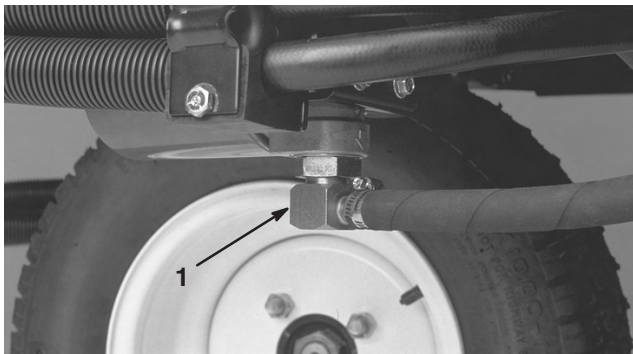
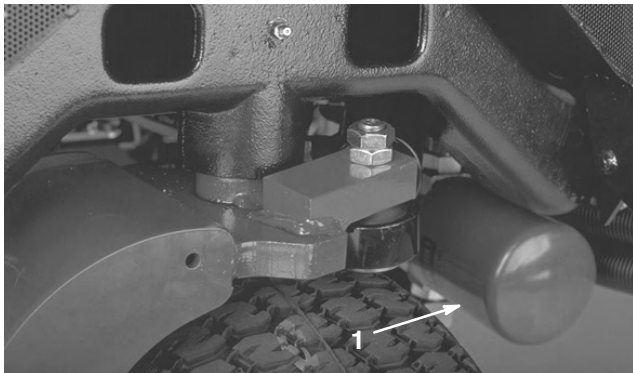

Figure 47
Figure 48
2. Disconnect the hydraulic line (Fig. 47) or remove the hydraulic filter (Fig. 48) and let the hydraulic fluid flow into a drain pan. Install the hydraulic line when hydraulic fluid stops draining.
3. Clean around the filter mounting area. Place a drain pan under the filter (Fig. 48) and remove the filter.